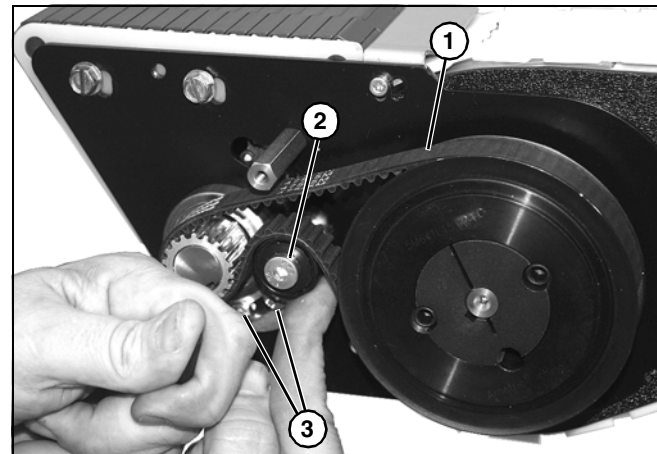

Figure 112
- On drive end, route and install belt (**Figure 112, item 1**) as shown. Press upward on tensioner (**Figure 112, item 2**) and tighten two hex head screws (**Figure 112, item 3**).